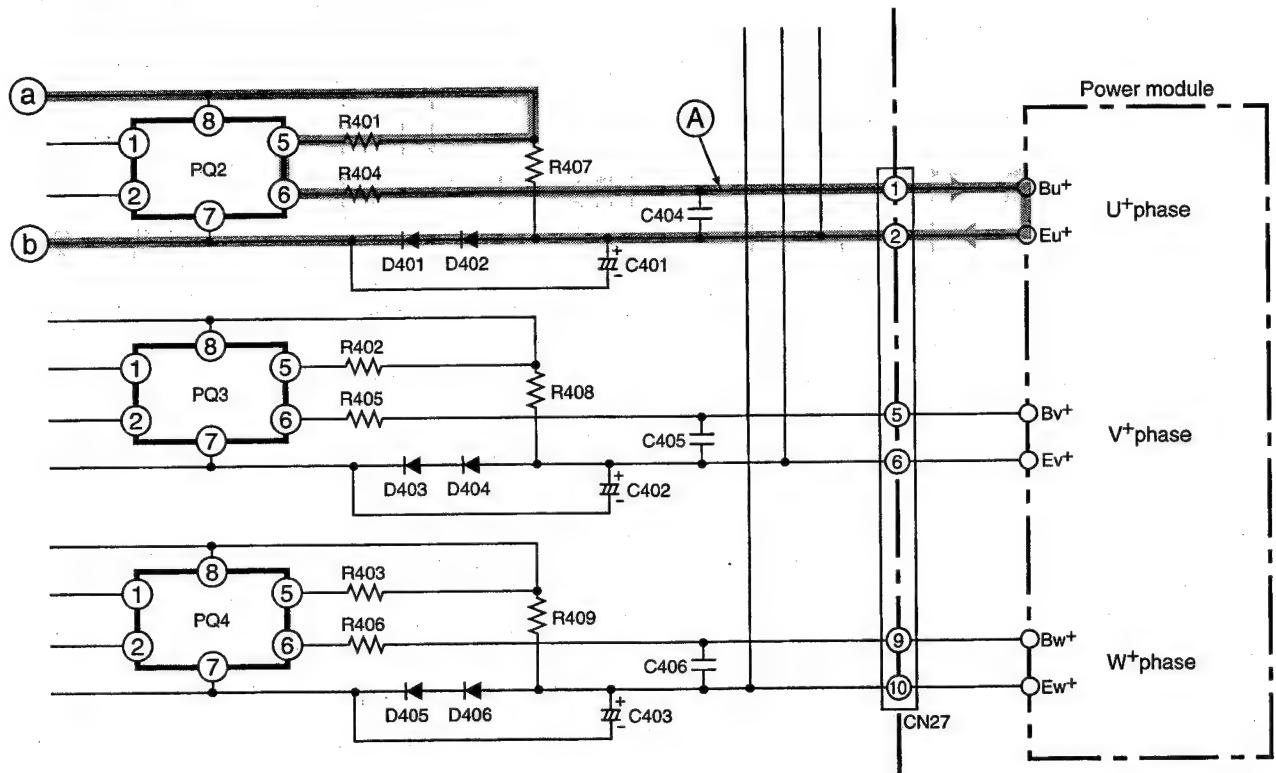

Fig. 7-1
- Fig. 7-1 shows the upper arm drive circuit. The circuit configuration is completely the same for phases A, B and C.